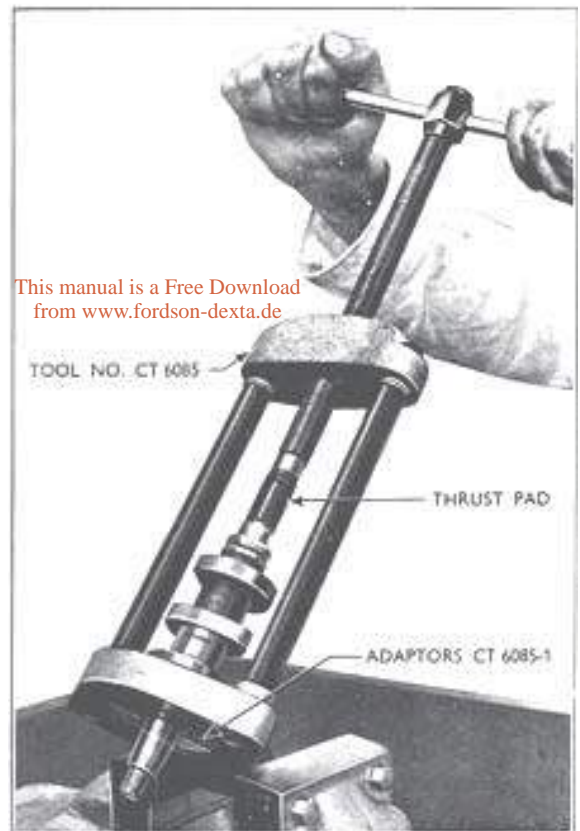

Fig. 15
3. Fit the camshaft bearing inner races with the same shims fitted behind them as were removed, using the replacer (tool No. CT.6085), split adaptors (tool No. CT.6085-1), and the appropriate thrust pad (see paragraph 23 above) as shown in Fig. 15.